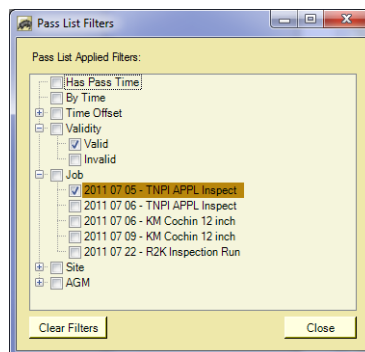

Figure 27 – Filter Window
2. Open the Filter Window and expand the Job filter (see Figure 27, above).